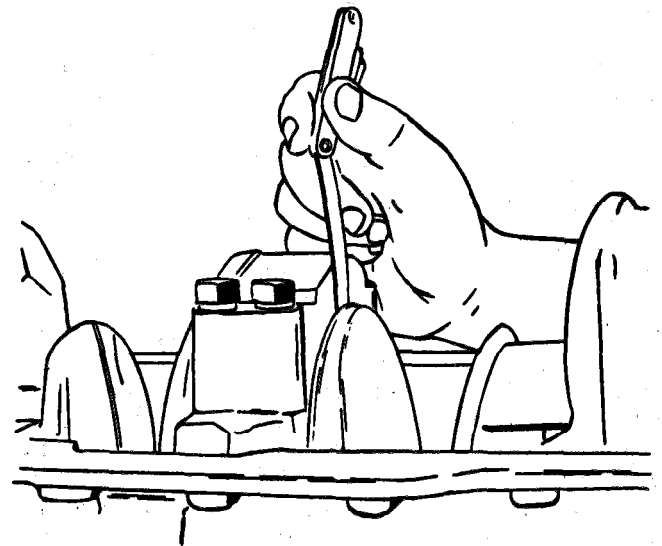

Figure 3-38. Checking Crankshaft End Thrust
e. After installing crankshaft with new bearings and center thrust bearing, check crankshaft end thrust. Insert different dimension feeler gauges until one just fits between center thrust bearing and crankshaft as shown in figure 3-38. This dimension must be between 0.005 and 0.010 inch for new bearings, and maximum allowable clearance of 0.015 inch. Insufficient clearance can be result of a misaligned main bearing, or a burr or dirt on inner face of thrust bearing flange. Disassemble, clean, and assemble as necessary. If clearance is still insufficient, polish thrust bearing flanges on a flat surface with crocus cloth to obtain proper clearance.